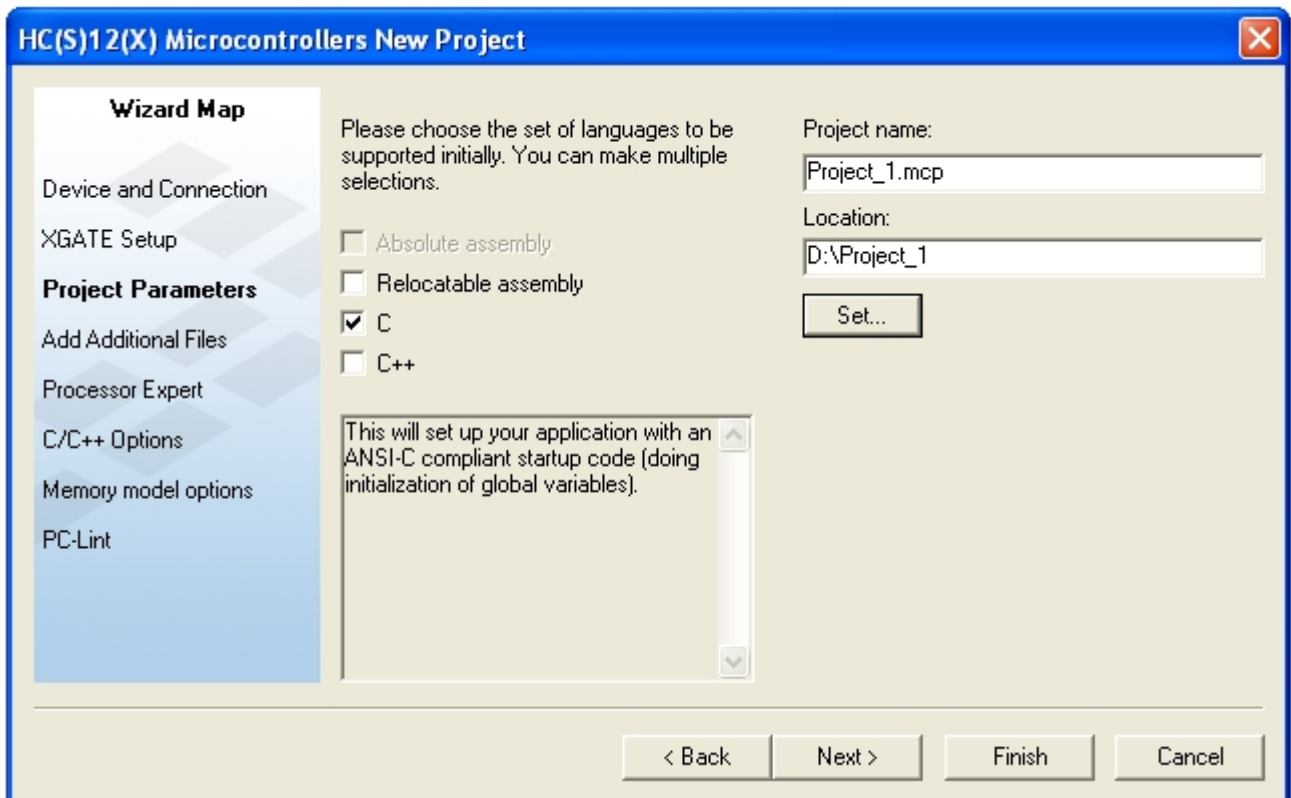

Figure 3-4
6. Select the language format by checking its checkbox. As shown as **Figure 3-4**.
7. In the **Project name** textbox, type the name of your new project. As shown as **Figure 3-4**.